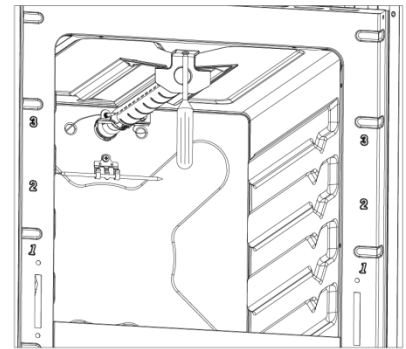

fig. 23
- a) Remove the burner by unscrewing the front screw (fig. 23)